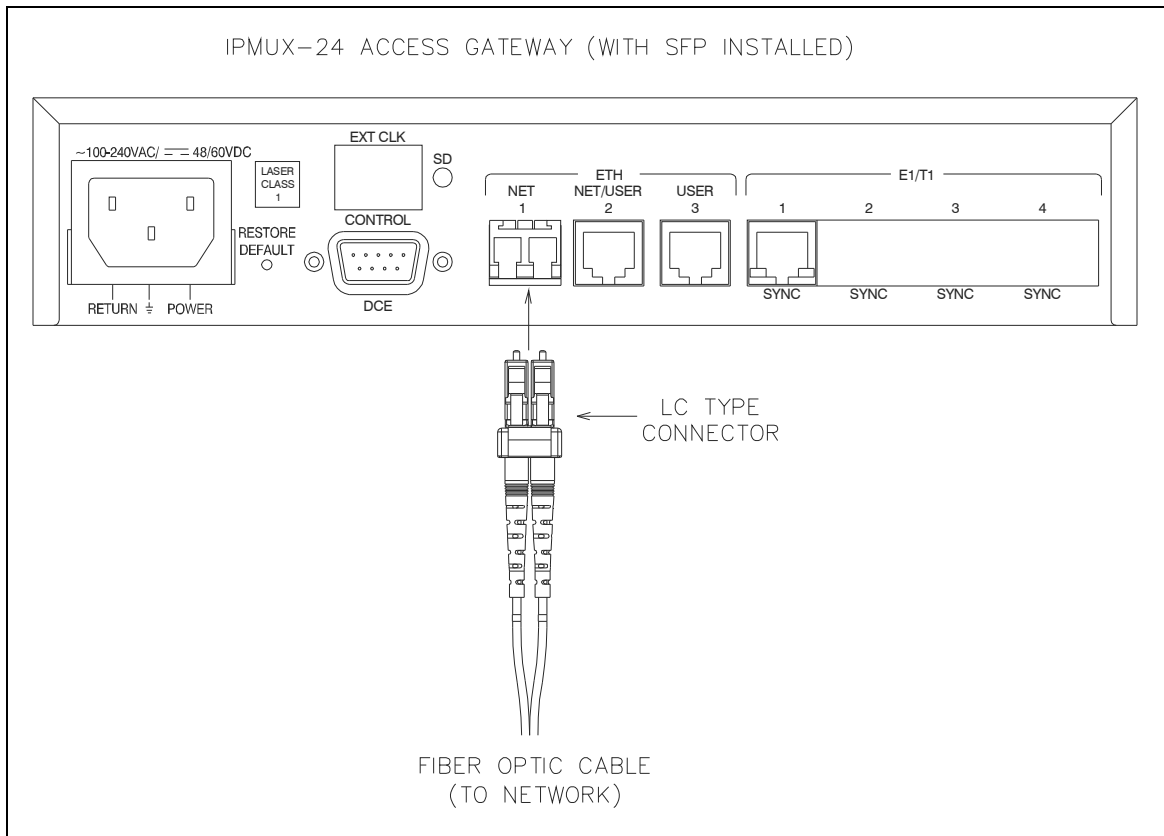

Figure 18. Fiber Optic Cable Installation
5. Insert the LC fiber optic connector into the SFP Module as shown in Figure 18 below.